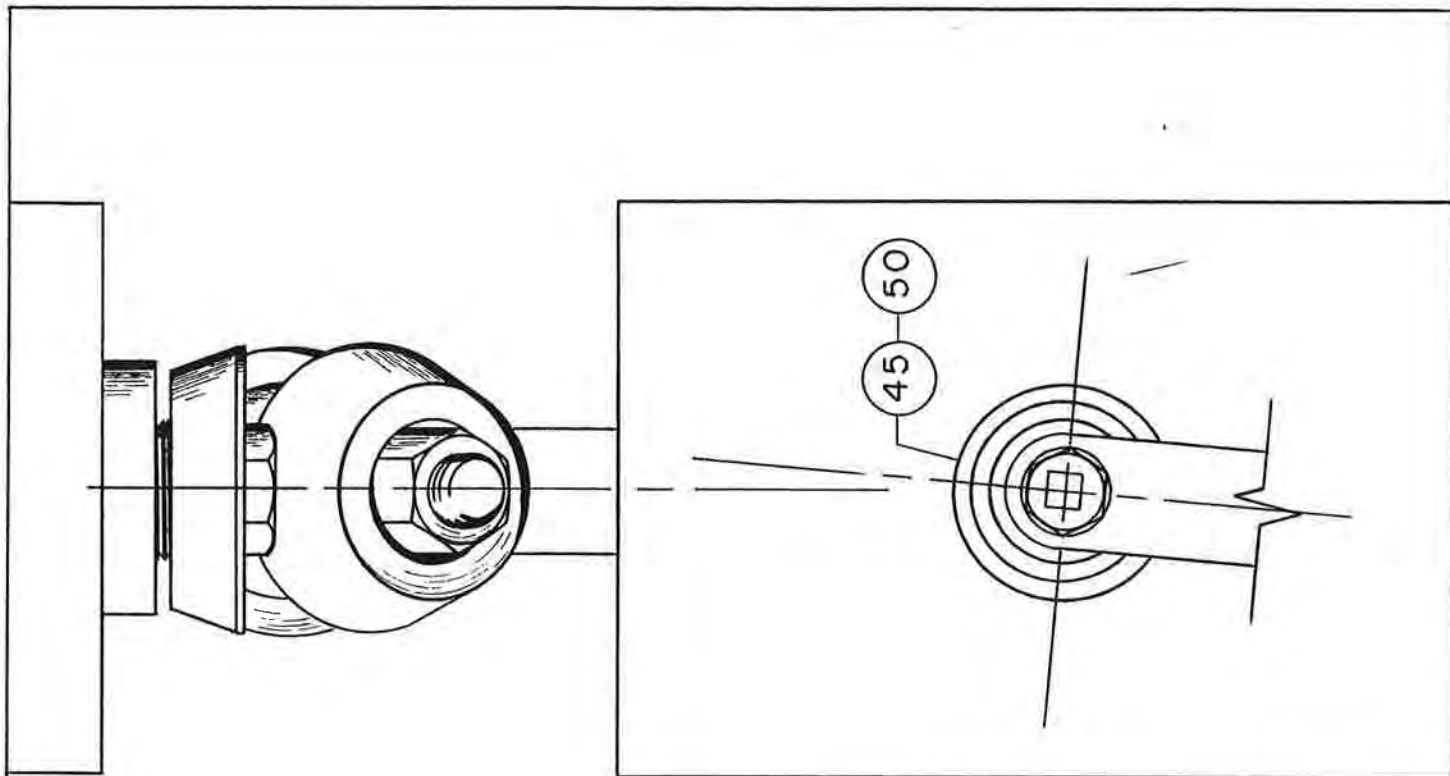

FIG. 3
8. The machine may have slipped out of alignment during shipment and should be checked for correct alignment prior to operation. Check Fig. 3 & 4 Page 7 for correct procedure for aligning the **MAY TOOL COMPANY** ring and circle shear. See Section 3 Page 6.
Looking at page 7 we see how the clamping plates #45 & 50 can be in line, Fig. 4 or out of line Fig. 3 with the cutting blades. **MAY TOOL COMPANY** suggest using a 12" scale #K (1) from a combination set for the alignment procedure. The vee in one side of the scale (1) is turned down and placed on the lower clamping plate #45 (1) with the center point in the vee and approximately 6 or 7 inches of scale protruding out toward the cutting blades or flanging rollers #33 & 36 (1) now clamp the scale tight using the upper clamp plate #50 (1) then loosen the tailstock clamp bolt #71 (2) and move the tailstock up till the scale touches the upper cutting blade or flanging roller and retighten the tailstock clamp bolt.